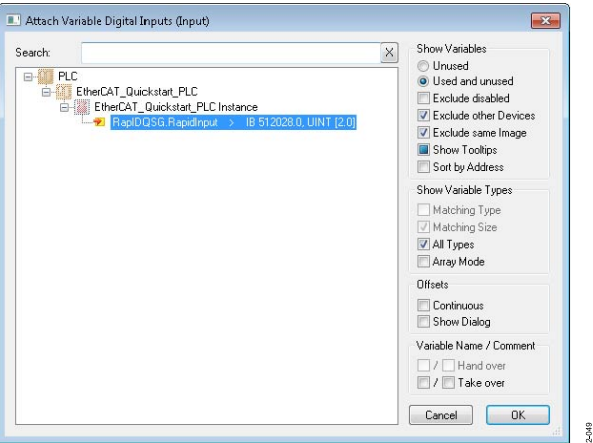

Figure 53. Rapid Digital Inputs
11. Under **Digital Ins**, right-click **Digital Inputs** and select **Change Link**. A message similar to what is shown in Figure 53 will appear. Select **RapIDQSG.RapidInput** and click **OK**.